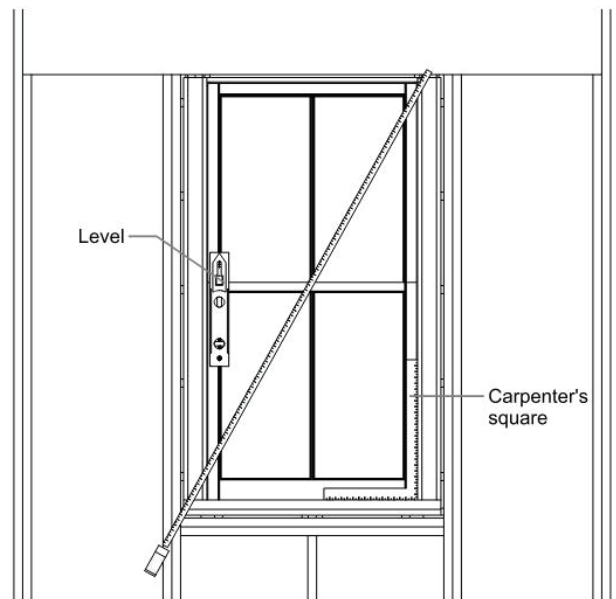

Figure 4
4) Confirm squareness of existing window. Confirm the existing window is square by measuring both diagonals. If the two diagonal measurements differ by more than 1/4", an out-of-square adjustment in the width of the window must be made. The adjustment is determined by creating a plumb line (using a level) from each corner to the sill or head. Using a plumb line that falls within the window opening, measure the out of square adjustment. Subtract this measurement from the smallest width measurement. Record this adjustment width as the smallest width. *(See Figure 4 on next page)*